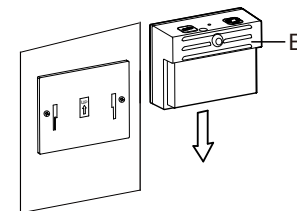

Figure 3
1. Mount the light on the mounting plate (DD) by aligning the slots on the back of the light to the slots on the front of the mounting plate. (Figure 3)